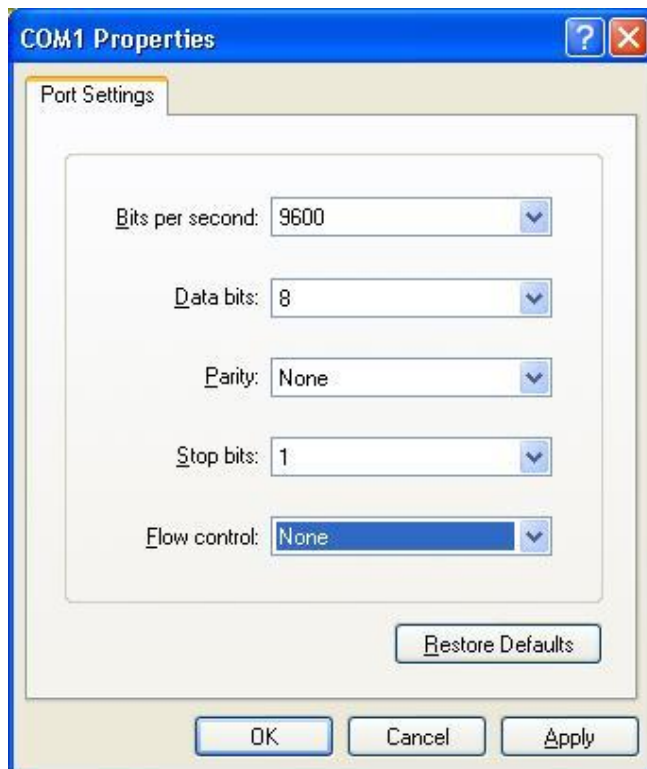

Figure 25 Setting Port Parameters
Step 5: Set port parameters (Bits per second: 9600, Data bits: 8, Parity: None, Stop bits: 1, and Flow control: None), as shown in Figure 25.